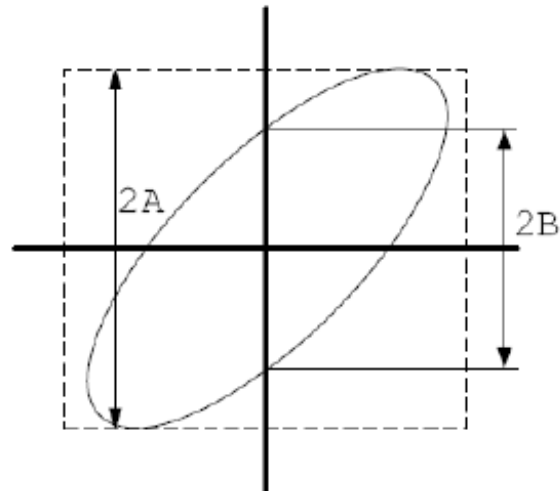

Figure 2: Lissajous figure
- An ellipse appears on the oscilloscope screen caused by the superposition of the sinusoidal signals V_{BA} and V_{DA} . (see Figure 2)